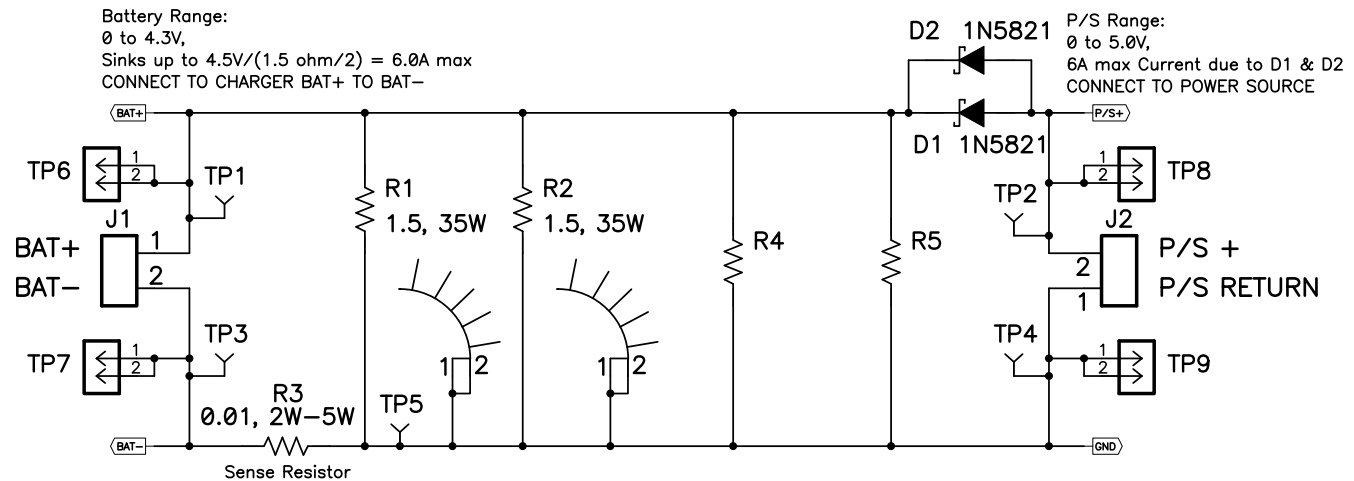

Figure 3. BAT\_Load (PR1010) Schematic
2. If not using a battery as the load, then power supply #2 (PS #2) capable of supplying up to 5 V at 4 A is required to power the circuit shown in Figure 3.
Testing with an actual battery is the best way to verify operation in the system. If a battery is not available, then a circuit similar to the one shown in Figure 3 can simulate a battery when connected to a power supply.
Because the watchdog timer is enabled, it is recommended that you set the software's **Reset Watchdog Timer** to reset every 5 seconds. Otherwise, after 30 seconds of operation, the IC enters *Default mode*. Note that the 27-minute safety timer is not reset by this function and eventually times out if charging does not complete, unless the **Safety Timer Time Limit** is expanded or disabled via the GUI. One way to reset the safety timer is to allow the 30-second watchdog timer to expire. See Figure 3 in the data sheet for more information about the timers.